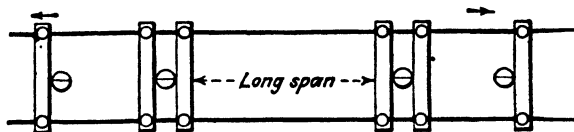

FIG. 11-41. Facing poles on long spans. Adjacent poles face away from long span.
**Long Spans.** Poles next to poles supporting long spans should face away from the long span, thereby being in a better position to carry part of the load (Fig. 11-41). The poles on each side of a long span are generally of special construction.